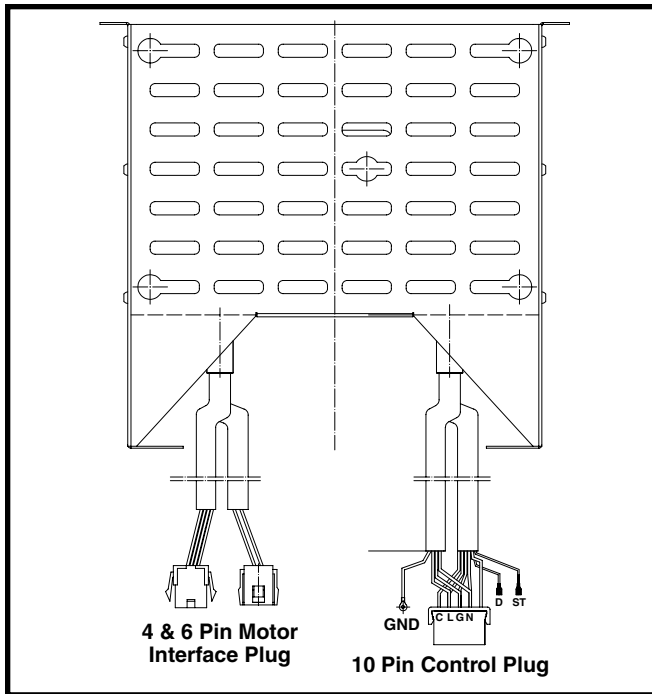

Figure 3. Motor Connections
10. Connect 4 and 6 pin plugs from motor to mating connectors on controller. See Figure 3 \(page 5\).